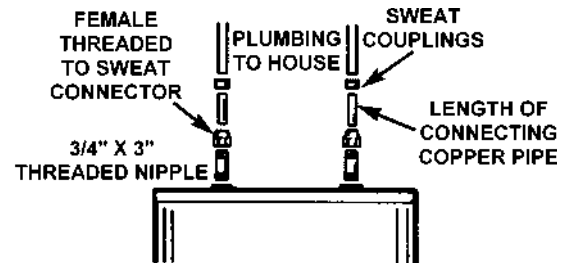

FIGURE 11.
3. Using the diagram, map out the installation. Screw the nipples into the tank and the fittings onto the nipples, hand tight. See Figure 11. Then measure and cut the copper tubing. Remove the nipples and fittings, then go to the next step.
6. The 3/4" female threaded to sweat connectors and two pieces of copper pipe to connect the water heater to the house plumbing should be cleaned, fluxed and assembled. See Figure 11. **Do not screw the connectors into the nipples in the tank before soldering.**